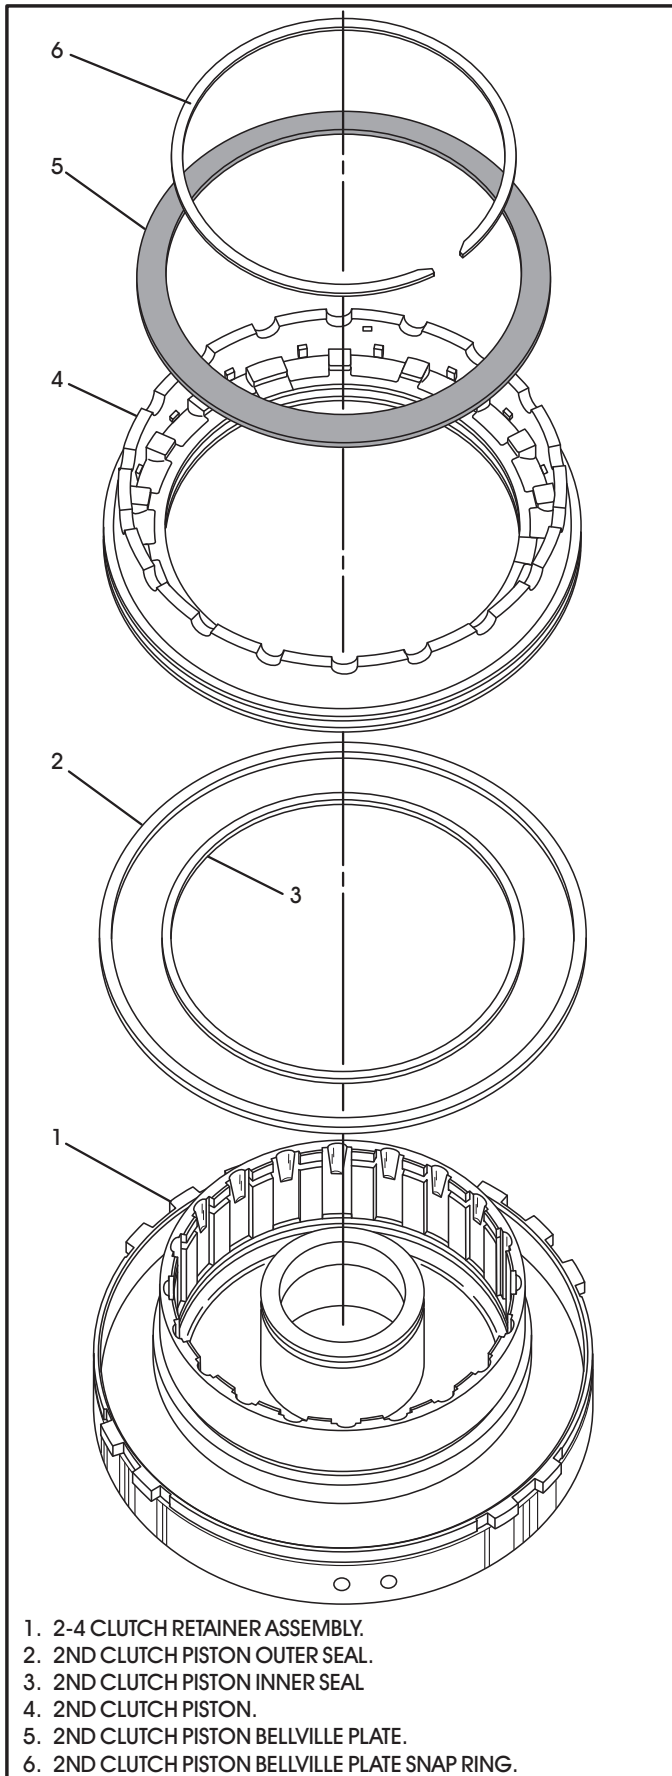

Figure 62
3. Install new inner and outer seals on 2nd clutch piston, as shown in Figure 62, and lubricate with small amount of TransJel®.
4. Install the 2nd clutch piston in the 2-4 retainer as shown in Figure 62.